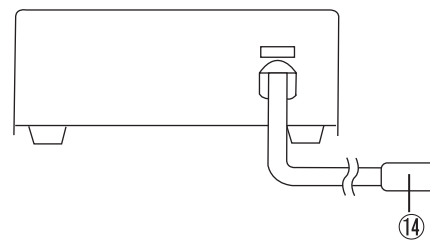

Fig. 4-4
(2) AC adapter (Figs. 4-4, 4-5)
⑭ Power output connector: